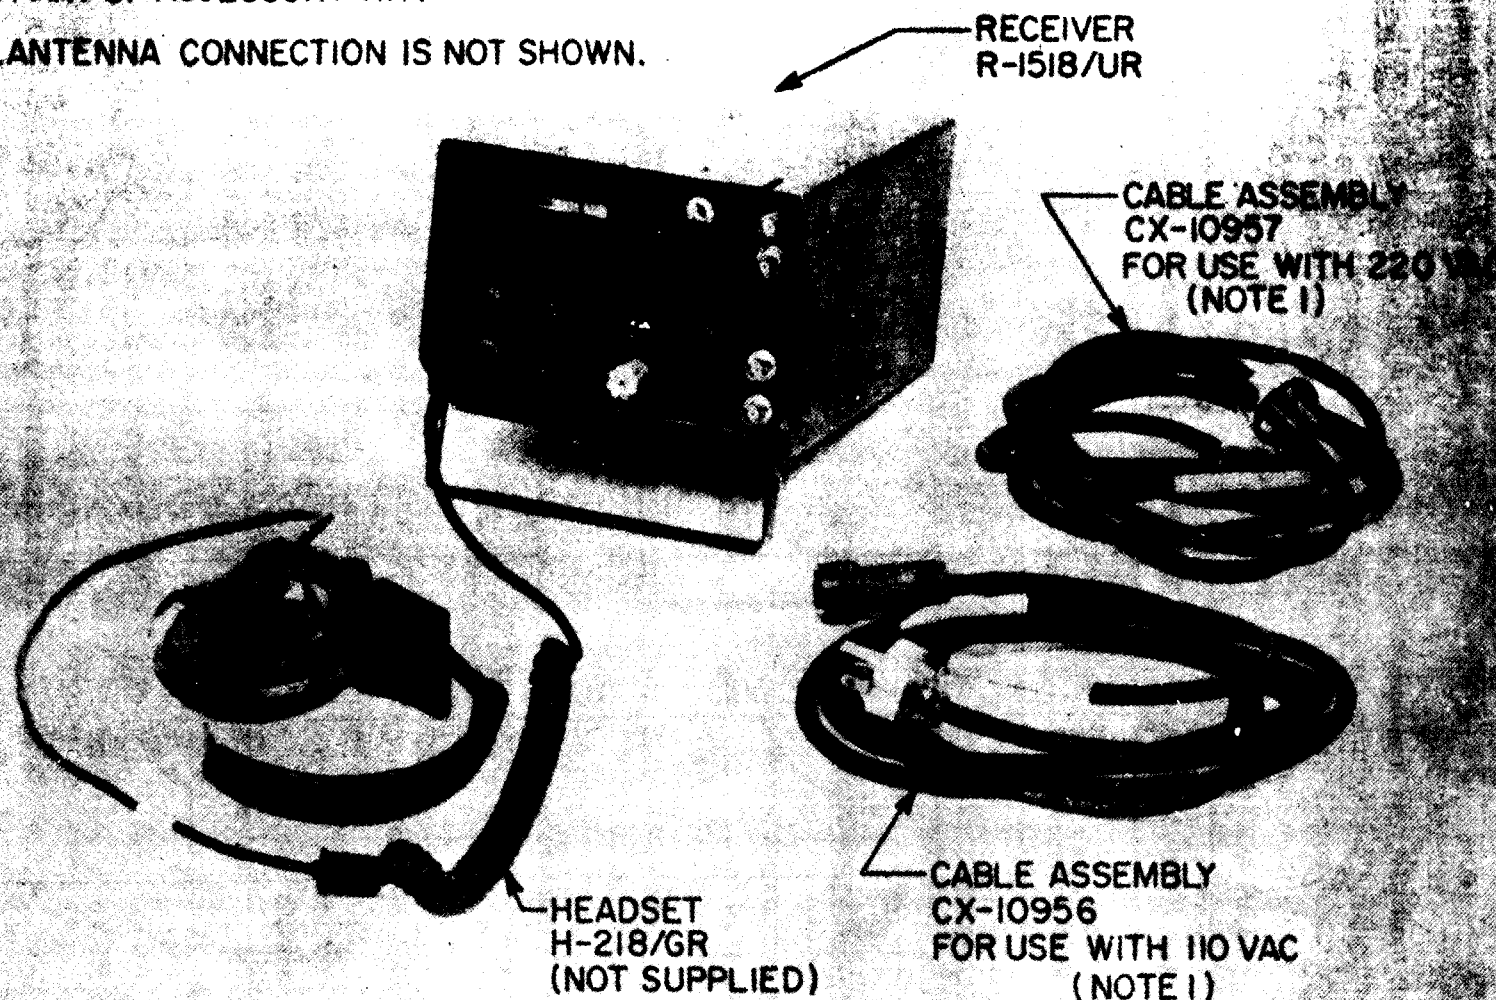
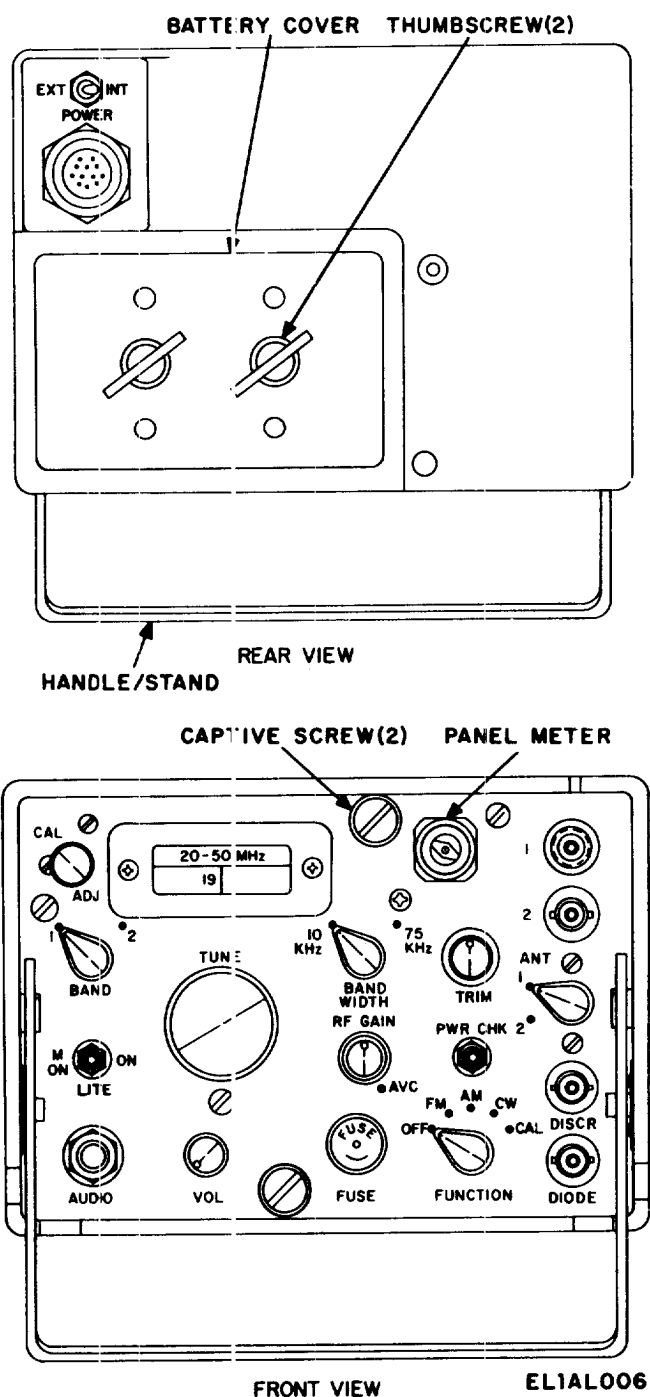

Figure 2-3. Typical fixed installation.
Figure 3-1. Controls, indicators, and connectors.
(1) Connect Antenna AS-2887/UR to receiver ANT input 1 (fig. 3-1).
(2) Set the ANT switch to 1.
(3) Connect a headset to the AUDIO connector.
(4) Set the rear panel POWER switch to INT.
(5) Refer to paragraph 3-5 and operate receiver in AM mode.
(6) Activate LITE to M ON and check that panel light operates.
c. Fixed Installation (fig. 2-3).
- (1) Extend handle/stand to stand position.
- (2) Connect the desired antenna to the receiver.
- (3) Set the ANT switch (fig. 3-1) to the desired input.
- (4) Set the rear panel POWER switch to EXT.
- (5) Connect the 110 vac or 220-vac power cable
The receiver front panel (fig. 3-1) controls, indicators, and connectors, and the rear panel and their functions, are listed in table 3-1.
c. Set the controls on the front of the receiver (fig. 3-1) as follows: